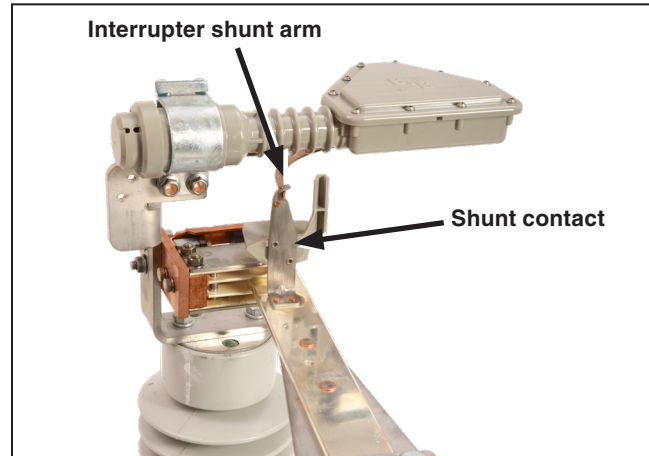

Figure 34. The shunt contacts guide each interrupter shunt arm into position.
- The interrupter shunt arms should be guided into position by the curved backs of the shunt contacts. See Figure 34.